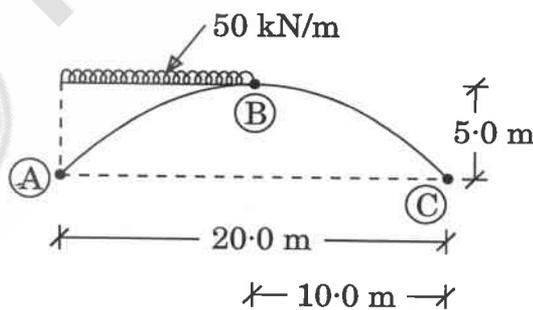

Figure 1(c)
- (d) Determine the design tensile strength of a plate (160 mm × 8 mm) connected to 10 mm thick gusset using 16 mm bolts as shown in Figure 1(d), if  $f_y = 250$  MPa,  $f_u = 410$  MPa,  $v_{m0} = 1.1$  and  $v_{m1} = 1.25$ .